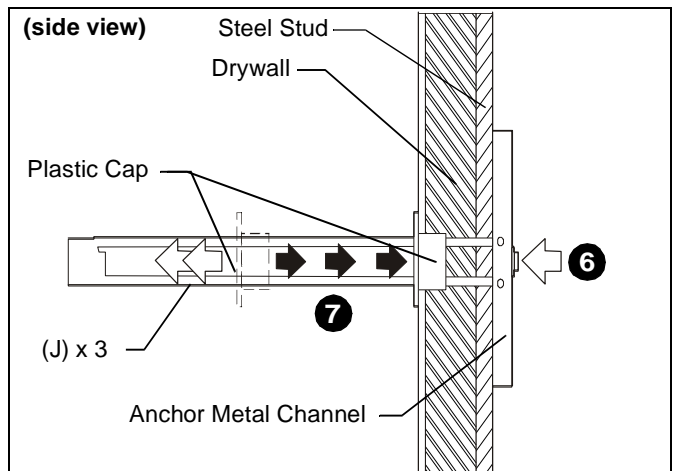

Figure 7
6. Holding plastic straps on anchor (J), pull anchor away from wall until channel rests flush behind wall making sure anchor channel is positioned vertically on stud. (See Figure 7)
7. Slide plastic cap on anchor (J) towards wall until flange of cap is flush with wall. (See Figure 7)